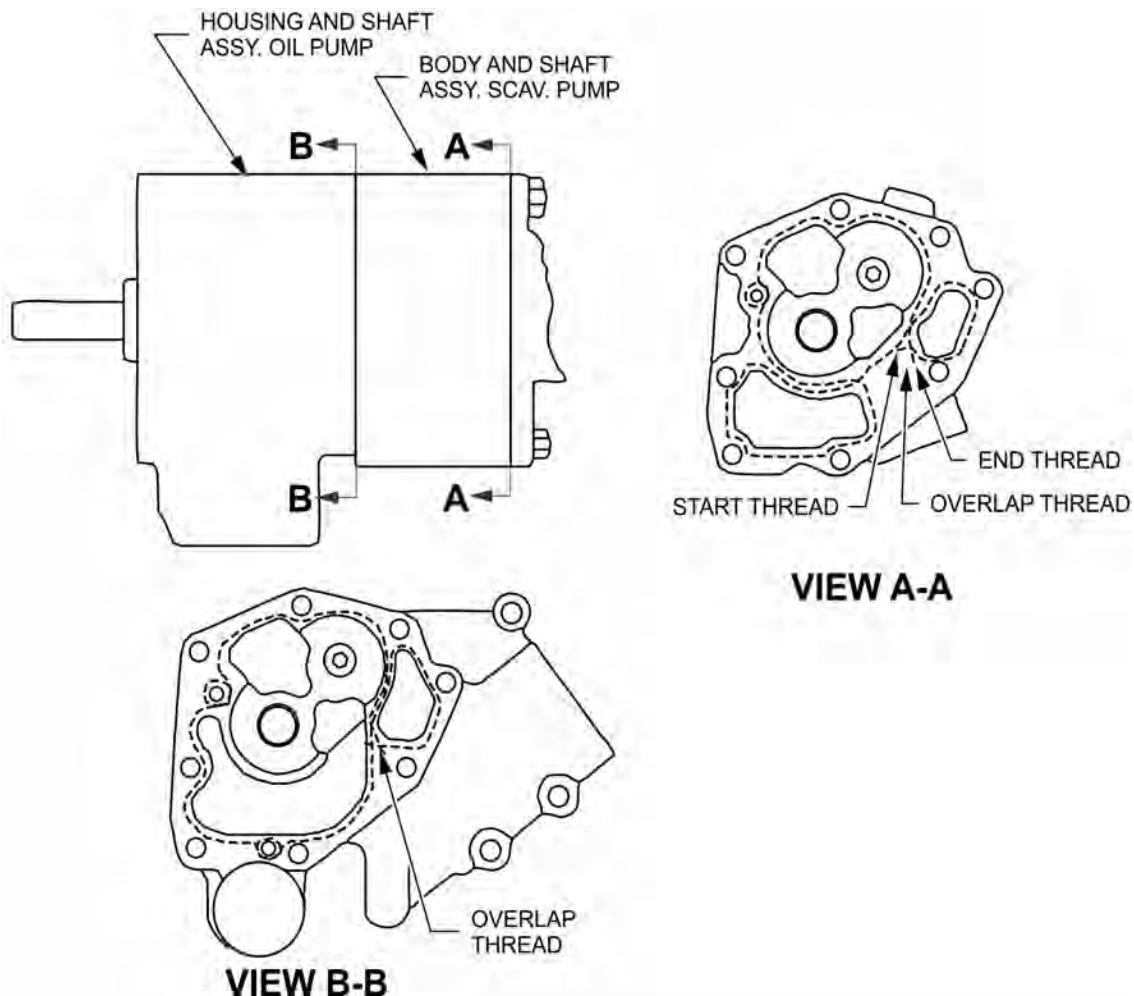

Figure 10. Threading Diagram, Oil Pump Assembly 632623
4. Apply P/N 641543 (a continuous, single piece of grade "D" silk thread) as shown by the dashed lines in Figures 10 through 14, pages 18-20).